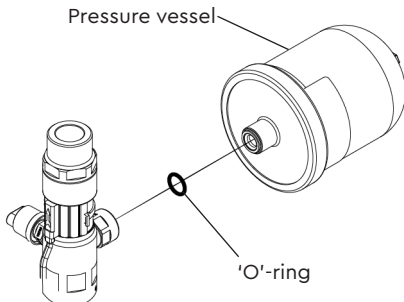

Fig. 4
- Remove 'O'-ring or rubber washer from manifold body (Figs. 4 & 5).